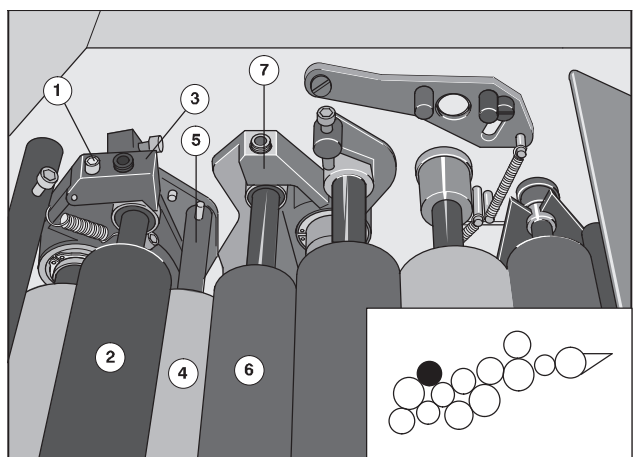

Fig. 27 Removing the 4th ink transfer roller
1. Unscrew the Allen screw (Fig. 27/1) with the operator tool; the screw remains in the latch on D.S. and O.S.
2. Fold up the latch on D.S. (Fig. 27/3) and O.S.
3. Simultaneously remove the 4th ink transfer roller (Fig. 27/2) on both sides from the bearing.
1. Grasp the 3rd ink transfer roller (Fig. 27/4) at the roller shafts (Fig. 27/5) and pull upwards out of the bearing unit.
1. Press 2nd ink transfer roller (Fig. 27/6) out of the bearing on D.S. (Fig. 27/7) and O.S. towards the delivery.